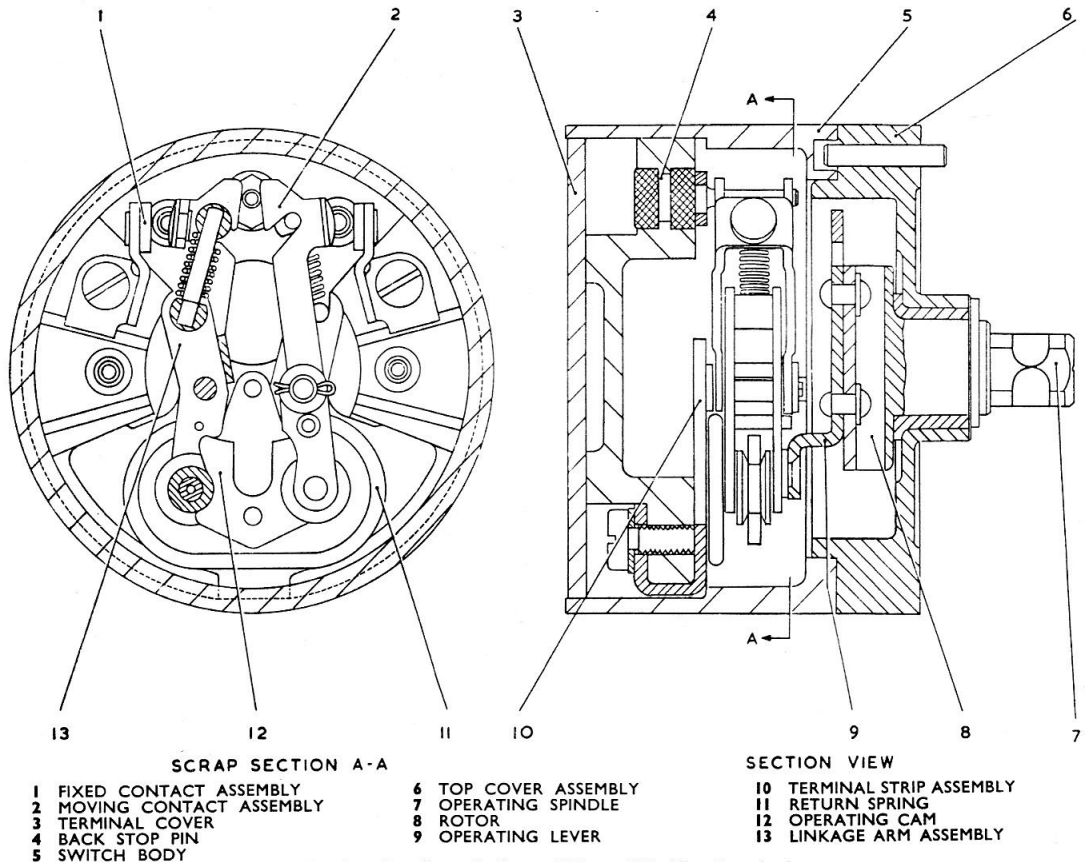

Fig. 1. Sectioned view of Type 2B, No. 1 switch
2. The unit comprises a cylindrical body 1.483 in. in length and 2.5 in. in diameter. On the base of the switch there are three terminals, No. 1 terminal being common to the two moving contacts of the switch. The switch (*fig. 1*) is operated by a rotor assembly comprising an operating spindle, rotor and lever. The operating spindle is secured to the rotor and protrudes through the top cover of the switch. Four grooves are machined on the periphery of the spindle to facilitate the fitting of an attachment for mechanical or manual operation.